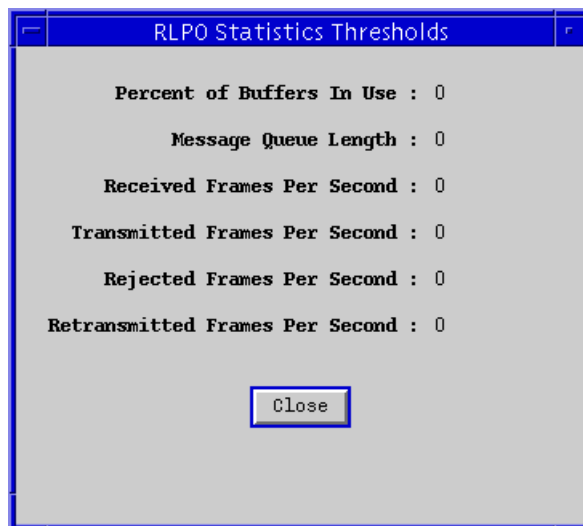

Figure 2-15. The RLP Statistics Thresholds Window
2. Drag down to **Thresholds**, and release. The RLP Statistics Thresholds window, **Figure 2-15**, will appear.